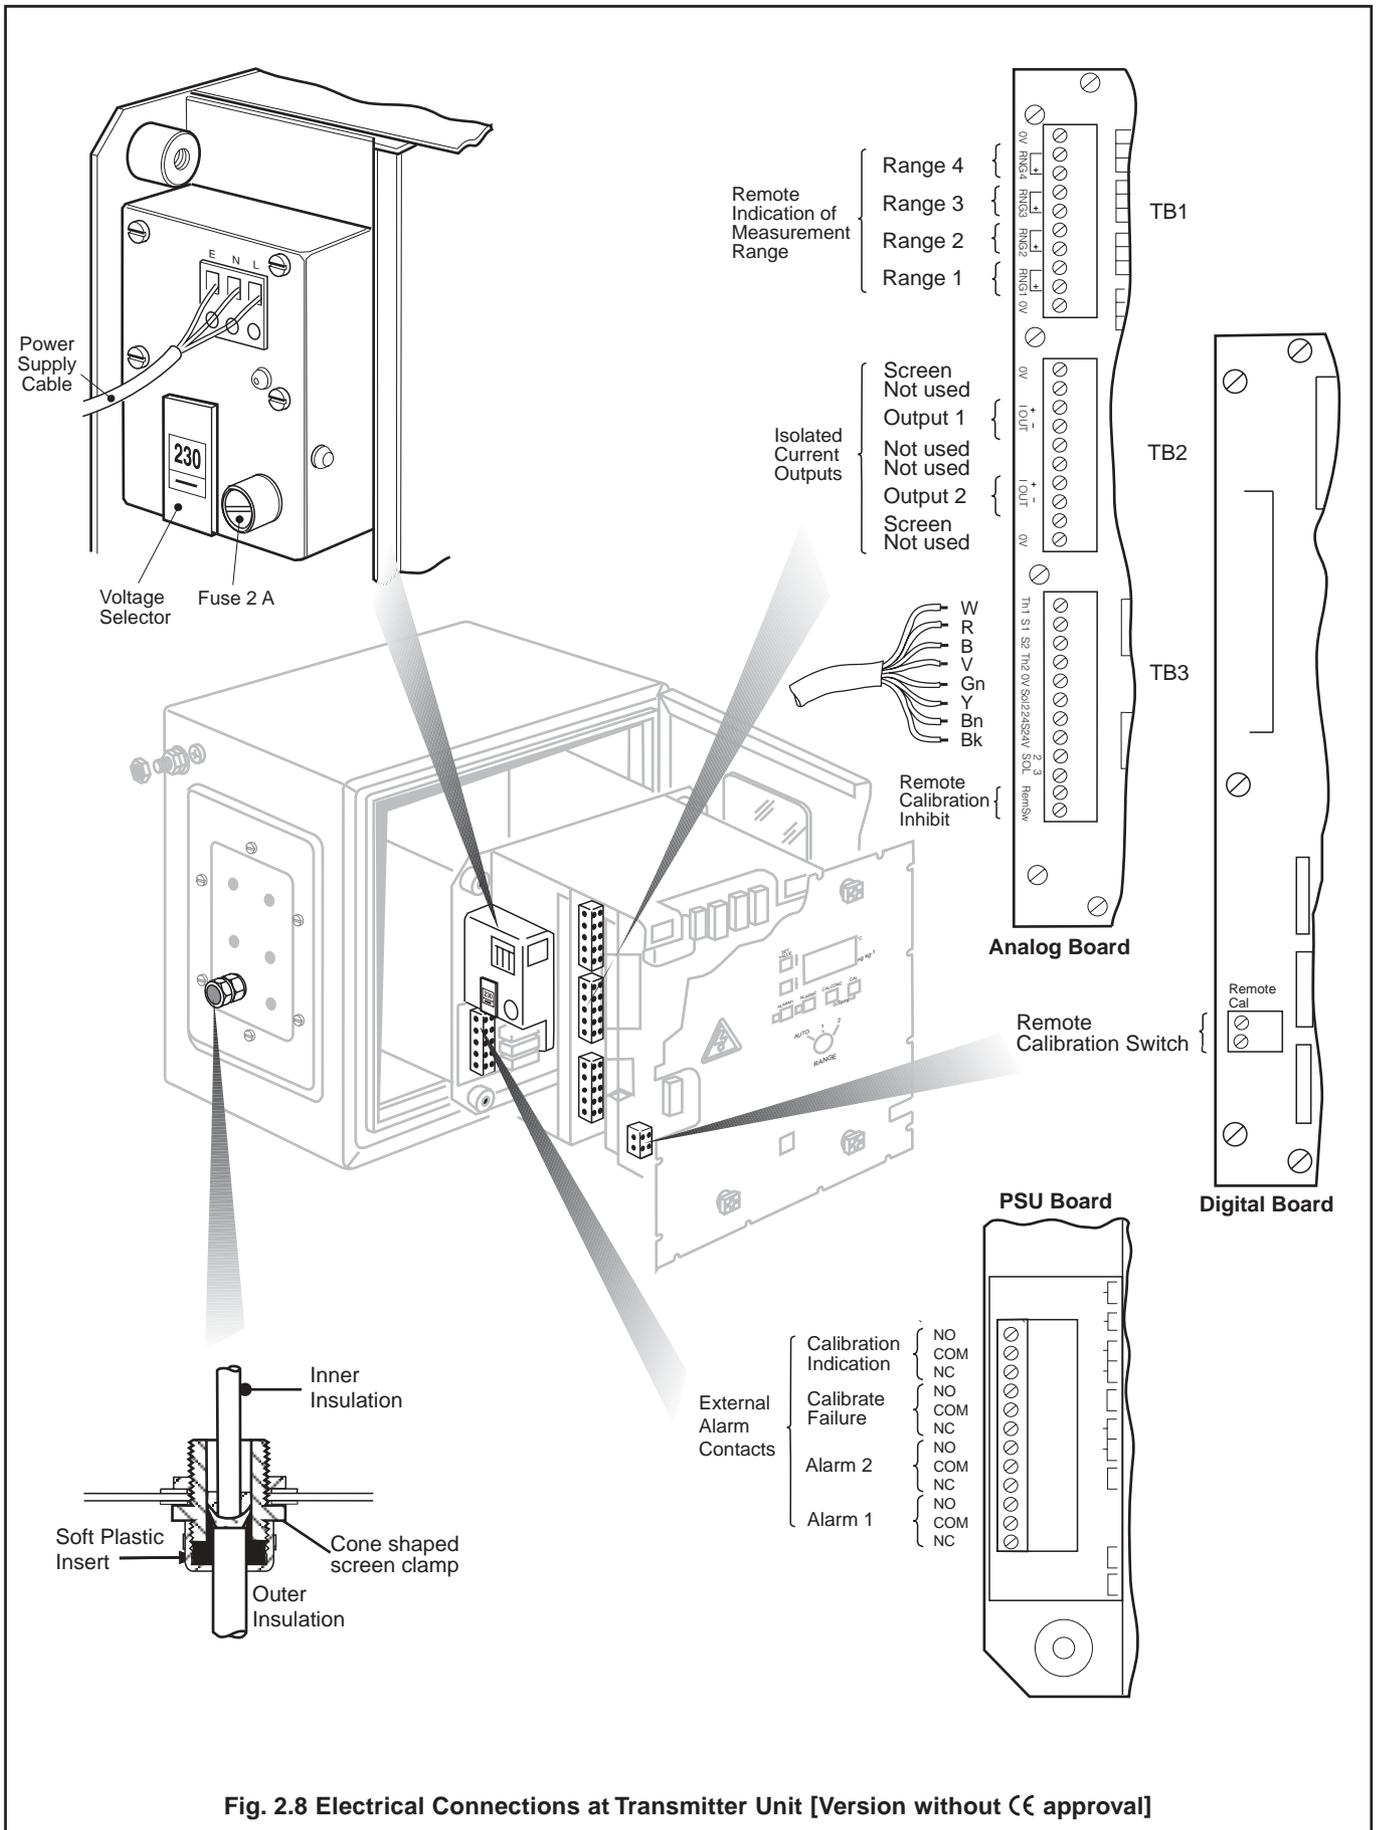

Fig. 2.8 Electrical Connections at Transmitter Unit [Version without CE approval]
2.4.3 Transmitter Unit (Fig. 2.8)
- Noting that the screening braid terminates at the cable gland and is prepared as shown in Fig. 2.8, prepare the cable end and attach it to the terminal block TB3. The terminal block may be pulled off the pins on the board if required.
Caution. The terminal block for sensor unit connection has eight terminals, whereas there are 12 pins on the board. Ensure that the correct eight pins are chosen for connection; these are marked, on the PCB, with a separate 'box' – see the following text and Fig. 2.8.
Pass the remaining cables through the glands. Note that Pin 1 of each block is nearest the top of the case. Prepare the cable ends and attach them to the terminal blocks as follows – see also Fig. 2.8.
A voltage selector is located next to the supply terminals. This voltage selector must be set to the correct value before connecting the instrument to the supply – see Fig. 2.8.